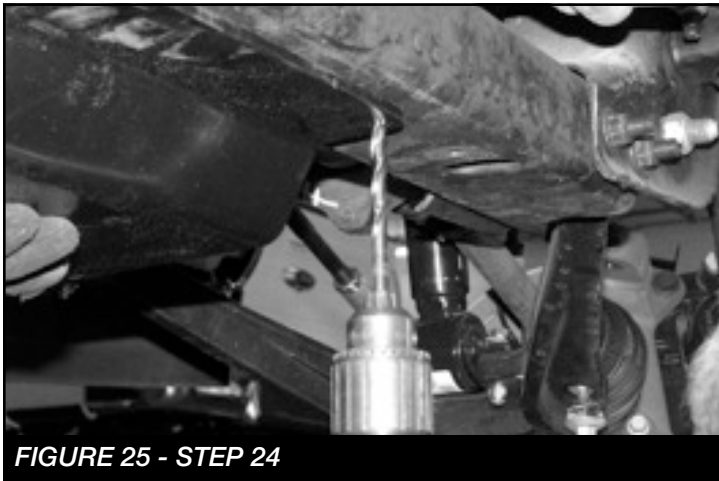

FIGURE 25 - STEP 24
24. Locate the FT20627BK skid plate and the two 3/8"-16x3/4" self tapping bolts. Mount the skid plate to the factory front cross member using two of the factory front bolts. With front of the skid plate mounted, use the back two holes in the skid plate for a drill guide. Drill two 5/16" pilot holes and install the two 3/8" self tapping bolts. Torque to 21 ft-lbs. Be careful not to over torque. **SEE FIGURE 25**